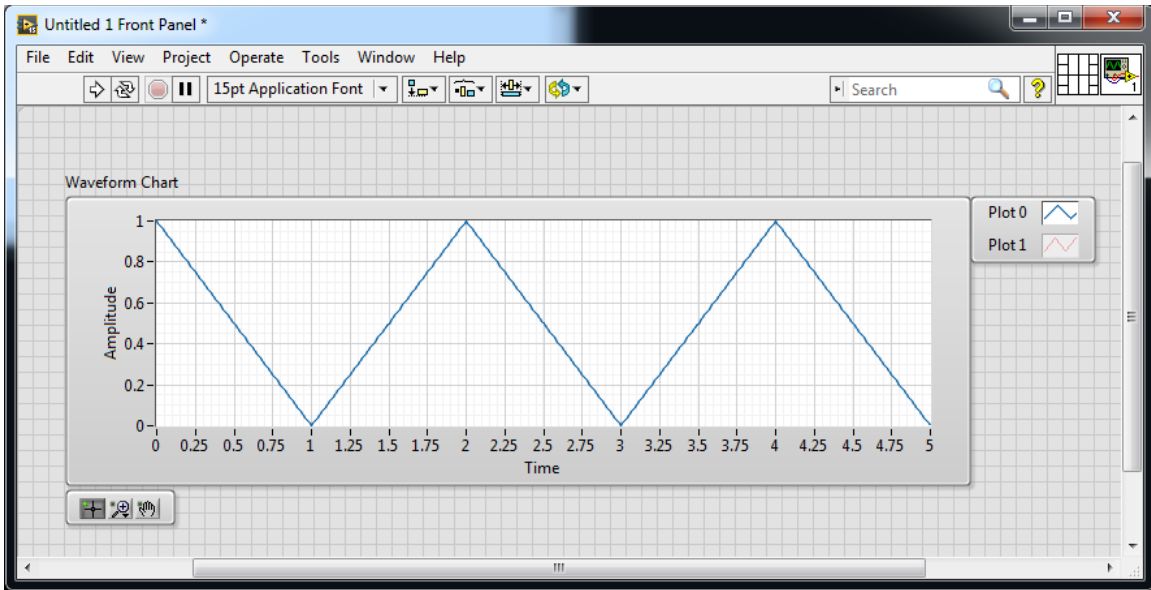
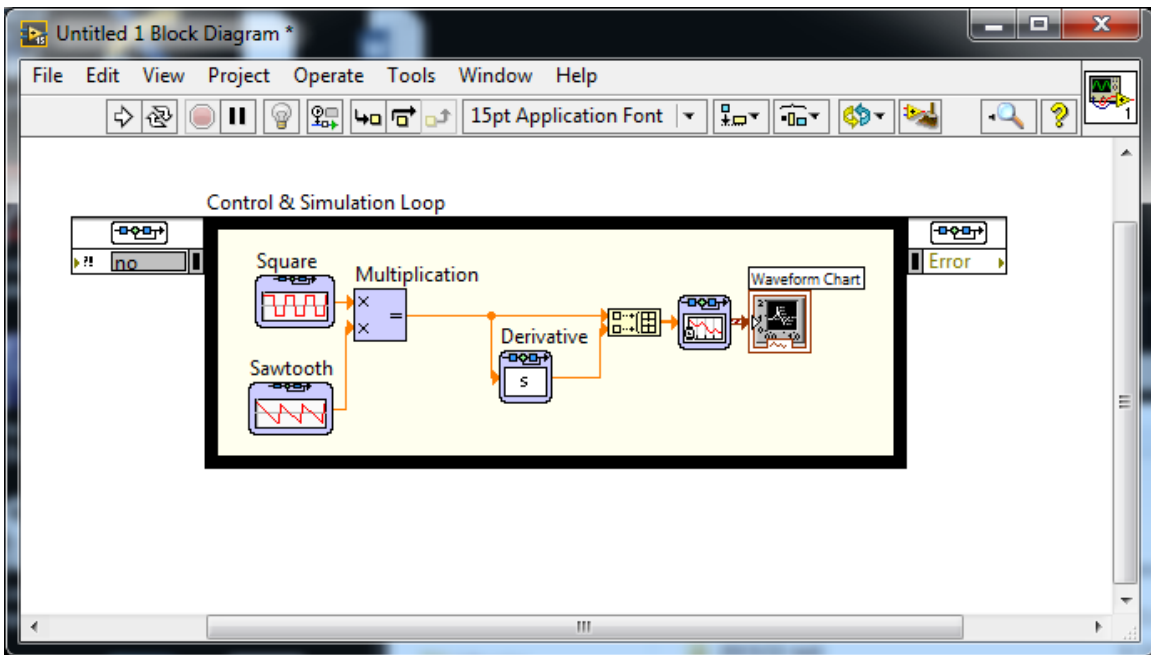

Figure 8 - Front Panel window with the complete differentiator simulation
Figure 9 - Block Diagram window with the complete differentiator simulation
Next, you will build a simulation of a differentiator. The complete simulation will match the Front Panel and Block Diagram in Figure 8 and Figure 9.
- Right click in the Block Diagram window to pull up the menu. Select **Array** then drag a **Build Array** in to the Control & Simulation loop. To increase the size of the Build Array, hover over the center of the bottom edge until you get a double-sided arrow pointing up and down. Extend the array block until it has two rows like Figure 9.
- Connect the blocks as shown in Figure 9.
- Run the simulation and record the results in your data table. The first triangle wave input should look like the one in Figure 8.